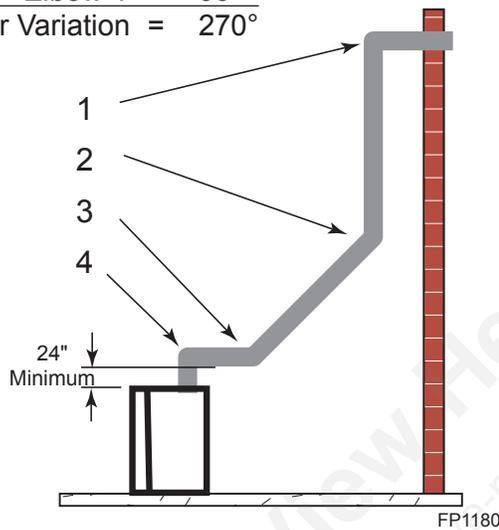

Figure 17 - Maximum Elbow Usage
- The maximum number of elbow degrees in a system is 270°. *Figure 17*